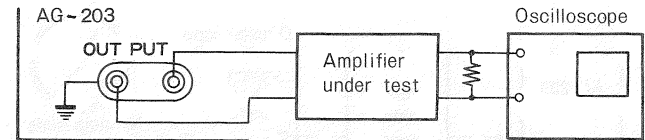

Fig. 7
1. Connect AG-203, an amplifier to be tested and an oscilloscope as shown in Fig. 7.
2. Press WAVE FORM (5) to the "□" position to obtain square waves of appropriate frequency and amplitude.